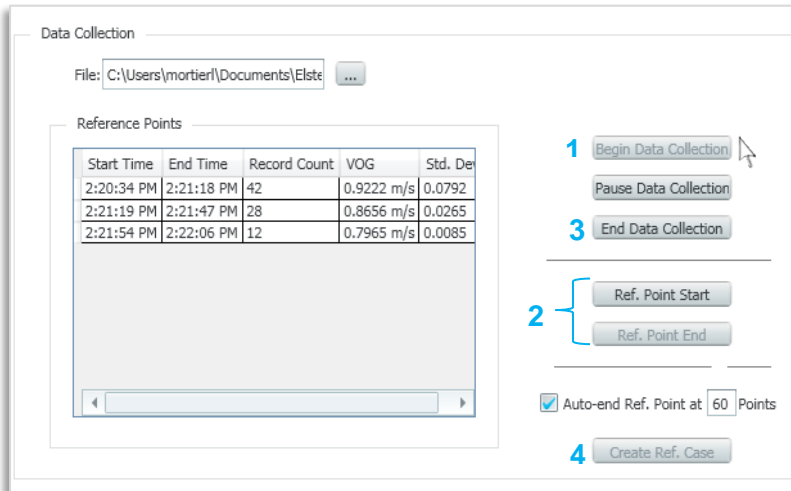

Figure 18-6 Steps for creating a new reference case
- ▶ Click on **Begin Data Collection** (Marked as 1 in Figure 18-6)
- ▶ Press the **Ref. Point Start** button. (Marked as **2** in Figure 18-6.) SonicExplorer will ask for some process conditions. For information on process conditions ⇒ see Chapter 11 Meter Monitoring \(Service\) (p.33). Meanwhile, SonicExplorer will start making a reference point for the number of desired points.
- ▶ Press **Ref. Point Start**; (marked as **2** in Figure 18-6) SonicExplorer will again ask for some process conditions. ⇒ See Chapter 11 Meter Monitoring \(Service\) (p.33) for more information on process conditions. Meanwhile SonicExplorer will begin making a reference point.
- ▶ SonicExplorer will only stop recording the reference point when **Ref. Point End** is pressed. (Marked as **2** in Figure 18-6.)
- ▶ When all reference points are taken, press **End Data Collection**. (Marked as **3** in Figure 18-6.) Sonic Explorer will stop logging the data.
- ▶ Click on the **Create Ref. Case** button. (Marked as **4** in Figure 18-6.) A menu will pop-up for naming the reference case. Please fill in as desired.
- ✓ All reference points will be shown in the **Data Collection** table, labeled as **Reference Points** as seen in the left hand side of Figure 18-6.